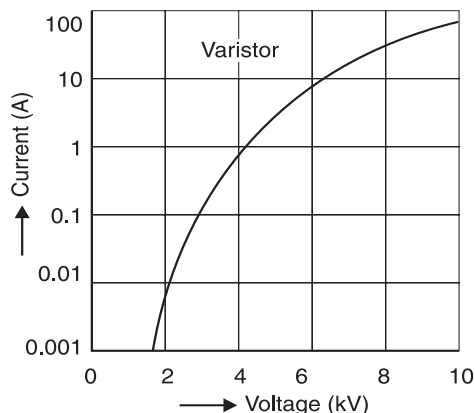

Fig. 1.30
2. Varistor (Thyrite). A varistor is a nonlinear resistor whose resistance decreases as the voltage increases. Therefore, a varistor is a voltage-dependent resistor. It is made of silicon-carbide powder and is built in the shape of a disc. The V - I characteristic of a typical varistor is shown in Fig. 1.30. The curve shows that the current increases dramatically with increasing voltage. Thus when the voltage increases from 1.5 kV to 10 kV, the current rises from 1 mA to 100 A. Varistors are placed in parallel with critical components which might be damaged by high transient voltages. Under normal conditions, the varistor remains in high-resistance state and draws very little current. On the application of surge, the varistor is driven to its low-resistance state. The varistor then conducts a relatively large amount of current and dissipates much of the surge as heat. Thus the component is saved from damage.